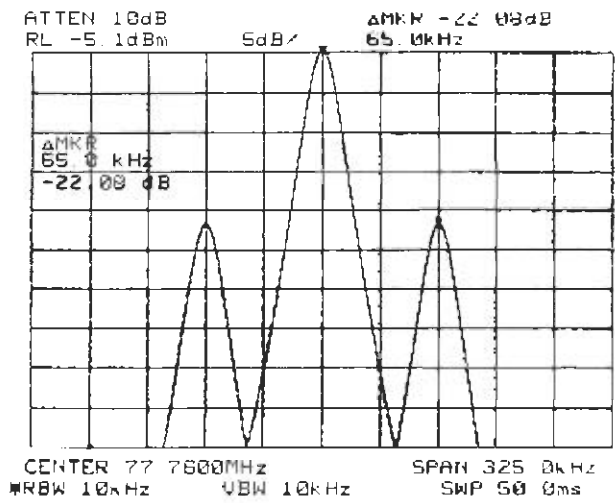

Figure 3-10 Carrier to Sideband Ratio Example
- 34 Adjust the HP 37718A jitter amplitude (approximately 7.52 UI) until the 4th **Bessel Null** is observed on the Spectrum Analyzer i.e 4th dip in the carrier level (see Figure 3-10). For STM-4 use 11.52 UI, 6th null. For STM-16 use 9.52 UI, 5th null.